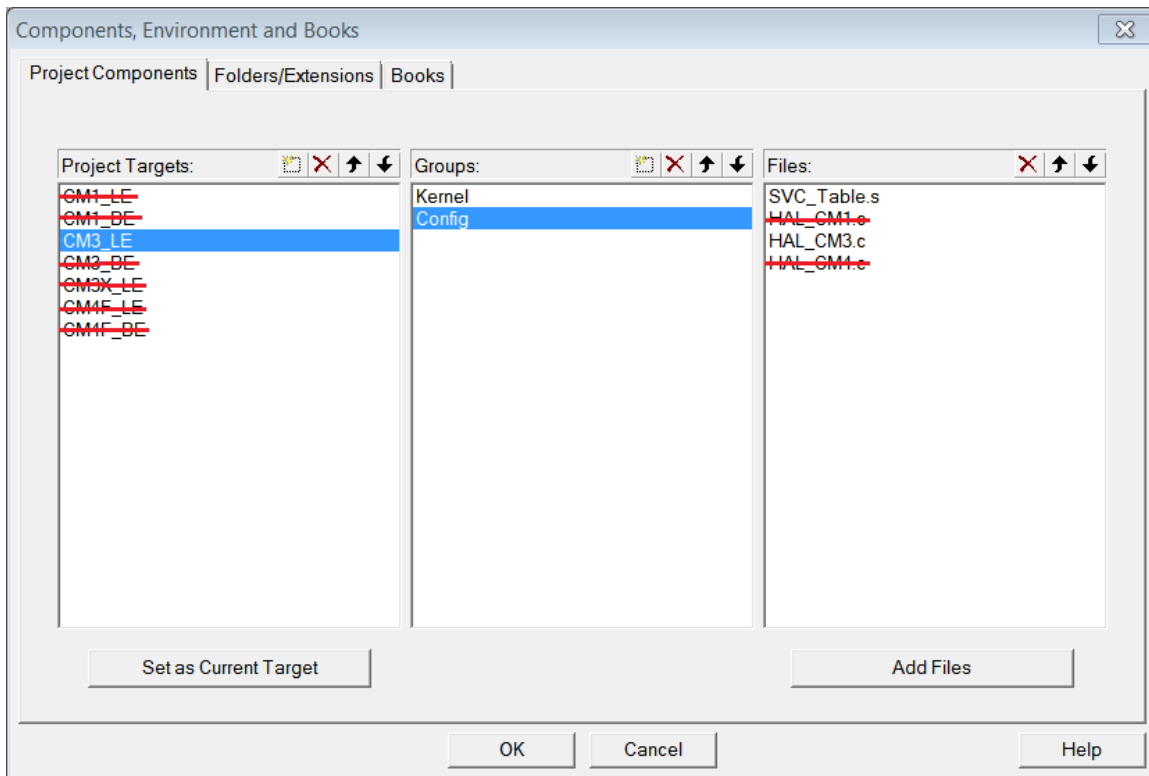

Figure 2.17: RTX Library Project Components for Cortex-M3
4. Open `RTX_Lib_CM.uvproj` under your `RTX_CM3` directory that you newly created. Right click the `CM3_LE` target under the project window to bring up the menu and click “Manage Components”. You will only need the `CM3_LE` target, which supports NXP1768 on MCB1700 boards. Remove all other targets in the Project Targets window. You also need to remove the `HAL_CM1.c` and `HAL_CM4.c` files in the Files window (see Figure 2.17).